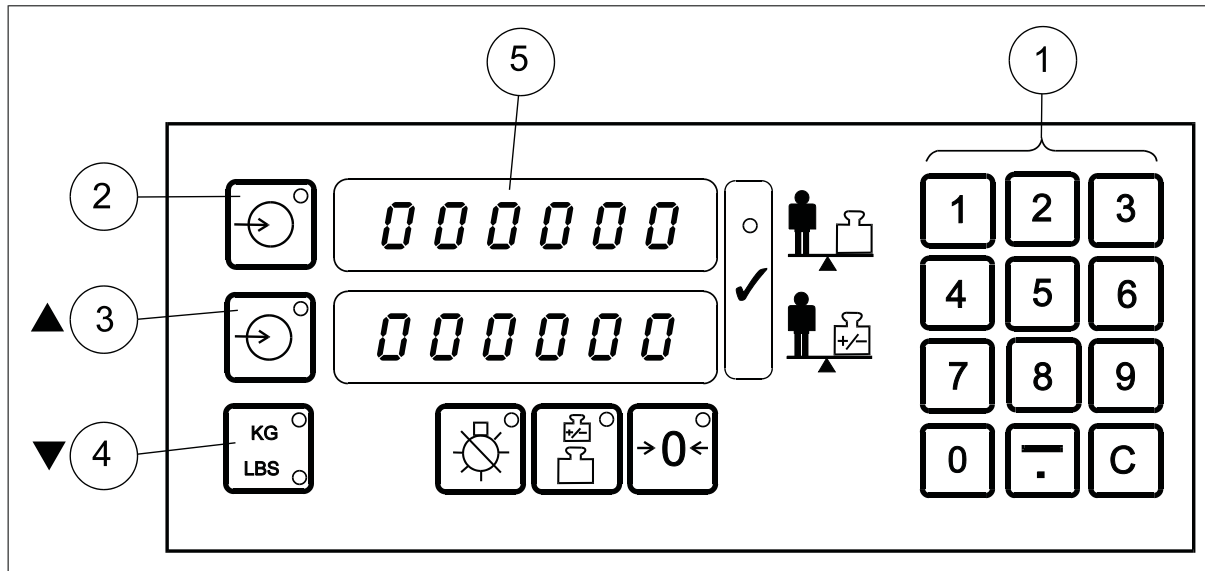

Fig. 7-1 User Interface Module (Non EN45501)
- e) Connect the bed to the mains power supply. The Upper Display (5) on the UIM should now show `CONFIG`.
- f) The following parameter headings form a circular Menu which can be scrolled up or down using the Change Enter Button (3) and the Scaling Button (4). (See Fig. 7-1).